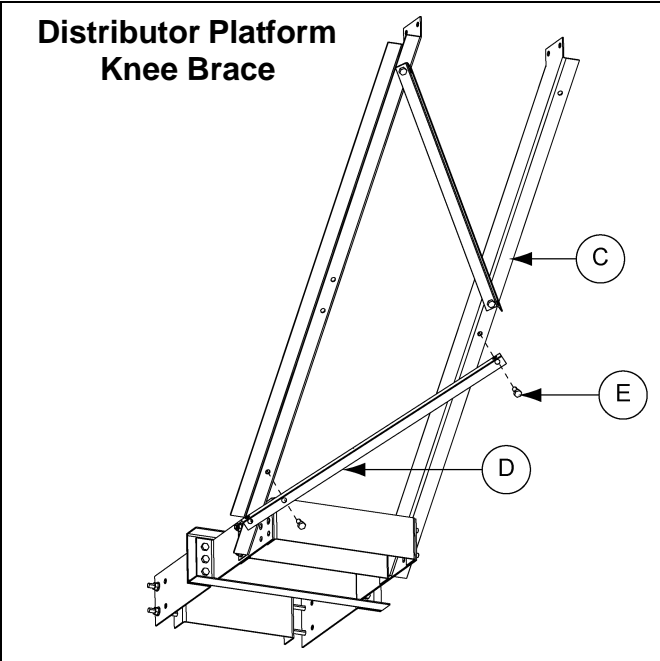

Figure 10G 24" Distributor Platform Knee Brace
**NOTE:** For 24" installation the lower knee brace will use the second hole on the brace and the second hole up from the bottom on the brace channel. *(See Figure 10G on Page 80.)*